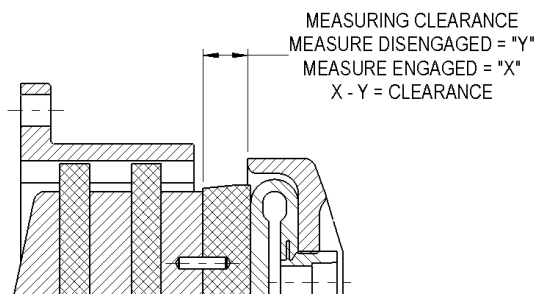

Figure 5
- 7.2.2 Operating clearance is calculated by measuring the distance between the base of the actuator plate and the top of pressure plate. Measure distance while unit is engaged and subtract measured distance while unit is disengaged. (see Figure 5)